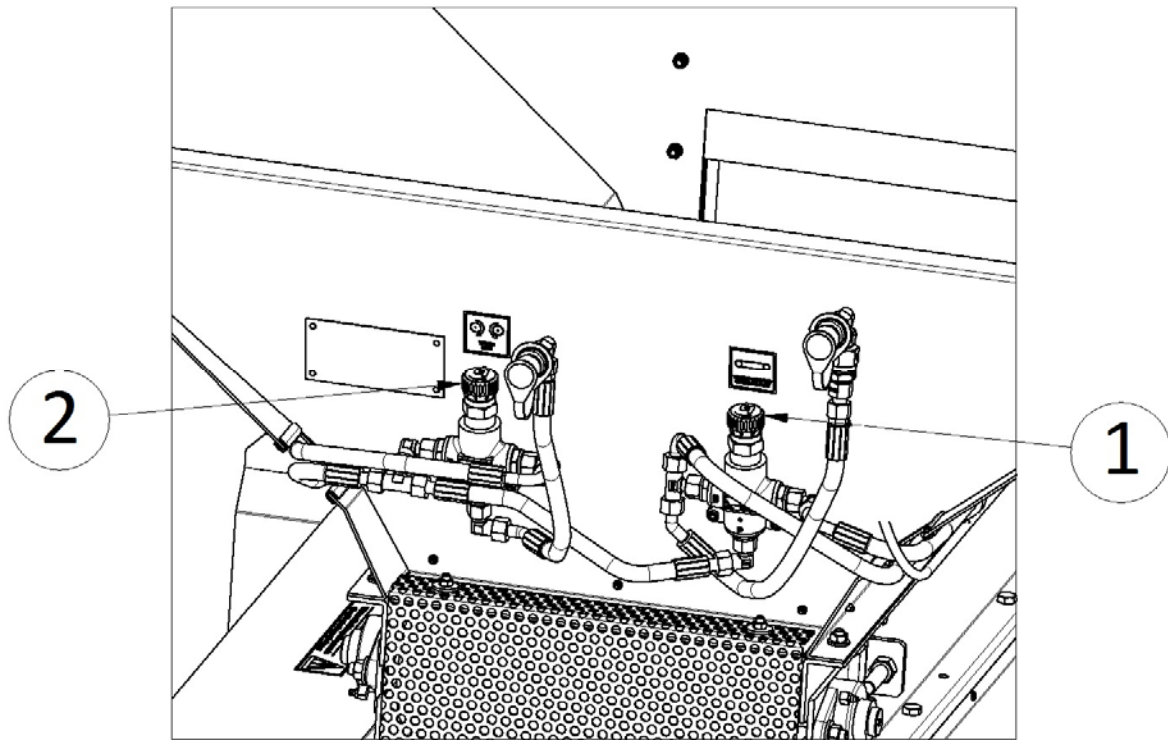

Fig. 2: Controls
- Regulating the conveyor belt speed with the controller (1) (see page 10 - Fig.2)
- Regulating the disc spreader speed with the controller (2) (see page 10 - Fig.2)